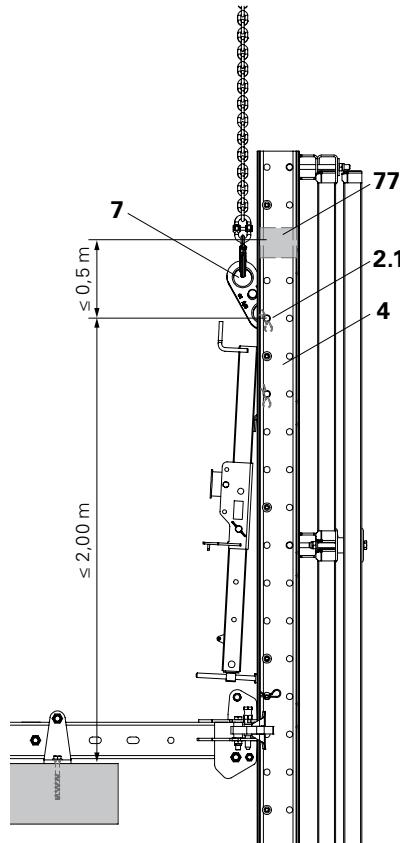

Fig. B2.02
- Mount Crane Eye BR 2.5 t (7) with Spacer LPS 52 (2.1) max. 2 m above the assembly area.
- Mount one timber 120/100 mm (77) above the Crane Eye between the climbing rails (4) as a compression brace.
- Positional stability of the timber by means of Hex. Wood Screws DIN 571 8x160 (80) and Washers ISO 7094-8, 2x per side. (Fig. B2.02)